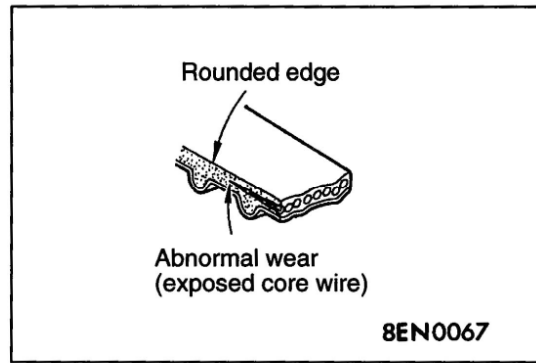

Fig.4-74
- (6) Abnormal wear on the belt's side, see Fig.4-74.